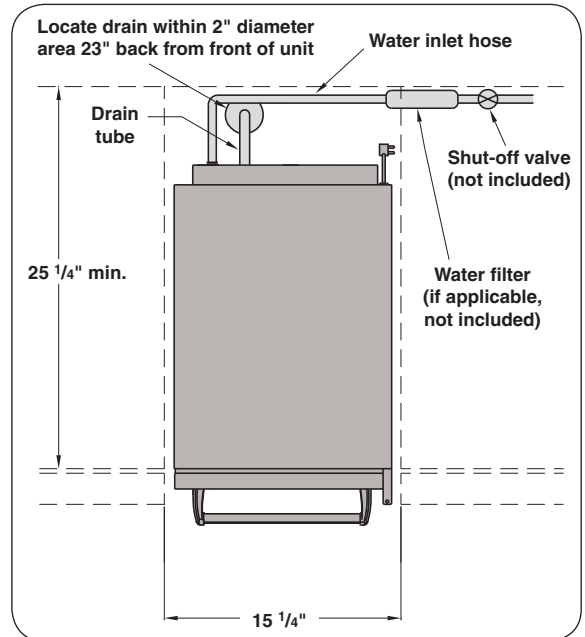

Fig. 9-1 Top view
5. Connect the drain tube (with a diameter of  $5/8"$ ) to the drain pipe at the rear of the product and secure them together using a hose clamp. See Fig. 9-1 for orientation.